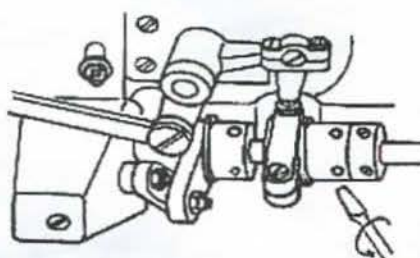

Fig. 13
(5) The trimming of the small looper is almost same as the timing of the large looper. Adjust the timing while confirming the state that the threads is properly threaded through the hook needle. To adjust the timing of the small looper, use the right large rod. To advance the timing, loosen the two setscrews in the right large rod with a hexagon wrench (2.5mm) as illustrated in *Fig.13*, and move the hexagon wrench up. To retard the timing move the hexagon wrench down. Tighten up the set-screws making sure that the setscrews are closely fit to the collar on the right-hand side.